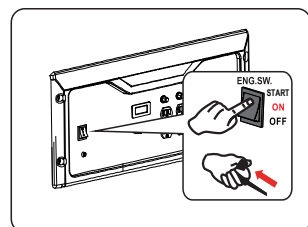

Fig 13 Recoil Start
- For manual start, turn the engine ON/OFF switch to the “ON” position. Pull the recoil handle (starter cord) slowly until resistance is felt, then pull rapidly. (See fig 13)